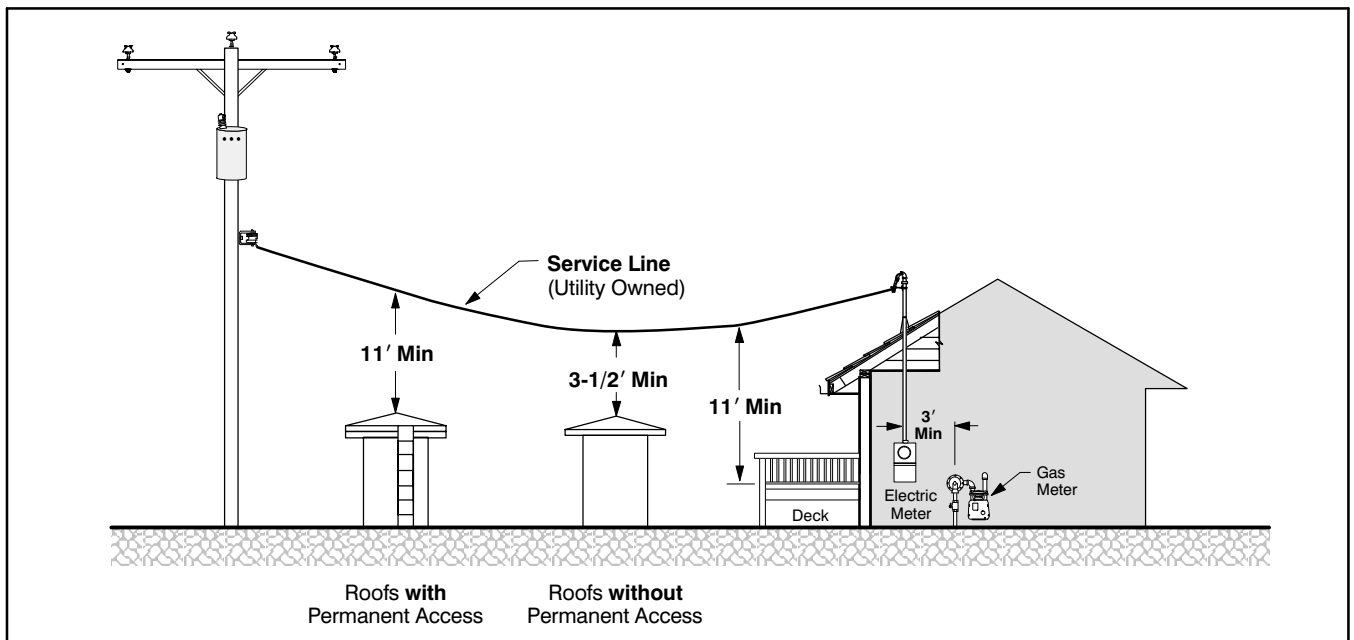
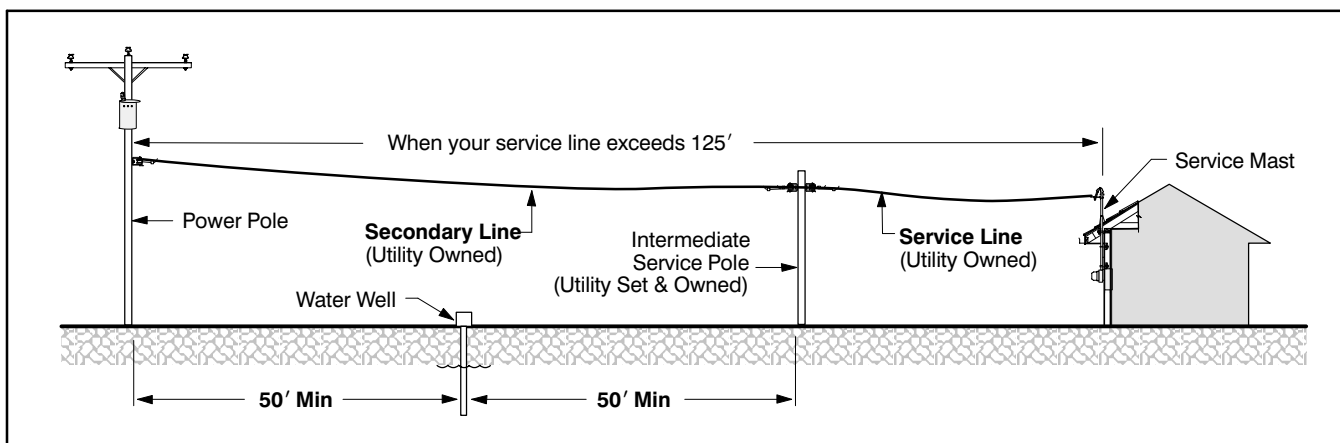

Figure 16 Minimum clearances over other structures
Figure 17 Intermediate service pole location
- A minimum horizontal clearance of 3 feet is required between electric service equipment and natural gas meter pressure relief vent (see *Figure 16*).
- Service lines passing over the roof of another structure (but not attached to that structure) must maintain the minimum clearances (see *Figure 16*).
- Service lines passing over a deck must maintain a minimum clearance of 11 feet (see *Figure 16*).
When the length of an overhead service line exceeds 125 feet or the clearances shown in *Figure 16* cannot be achieved, an intermediate service pole may be required to maintain safe ground clearance (see *Figure 17*) for the wire and to relieve excessive tension at the *service mast*.